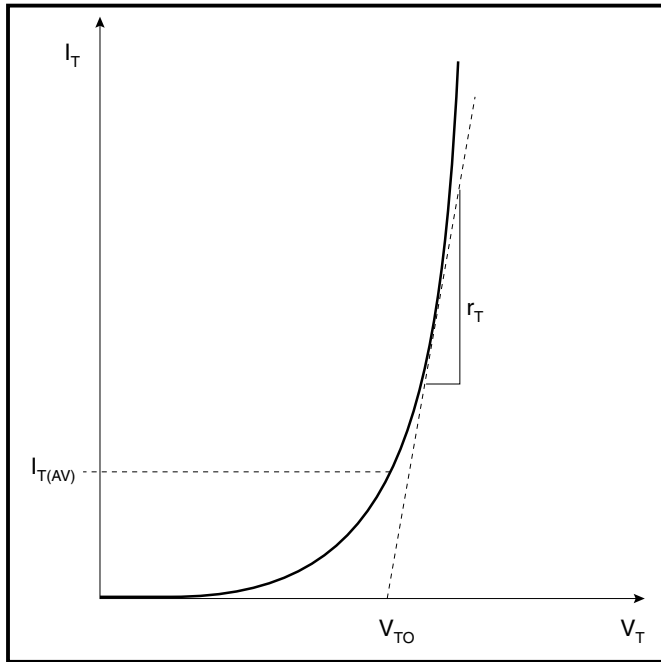

Fig.3
- 4) As Fig 3. A tangential point constructed such that the value of $I_{T(AV)}$ calculated from:-